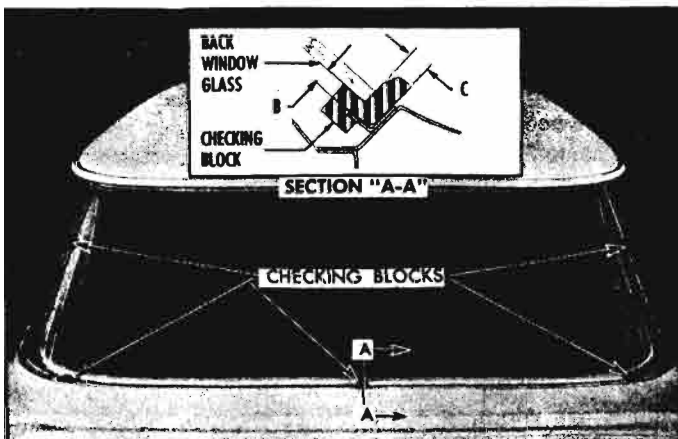

Fig. 10-79—Checking Blocks J-8372 Installed to Back Window Opening
3. Install five (5) checking blocks J-8372 over pinchweld flange and retaining flange at locations shown in Figure 10-79.
5. With back window glass supported and centered in the opening by checking blocks, check relationship of glass to body opening around entire perimeter of glass. The distance between the inside surface of the glass and the pinchweld or retaining flange indicated at "B," Figure 10-79, and between the outer edge of the glass and body metal indicated at "C" should be uniform completely around the glass and body opening. Any irregularities should be marked and re-formed.